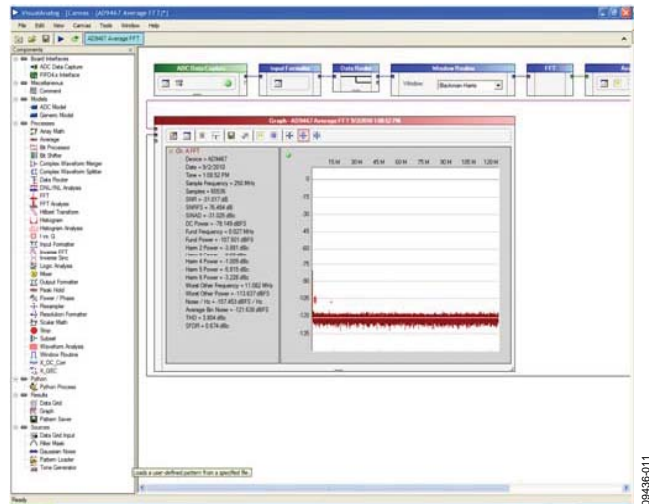
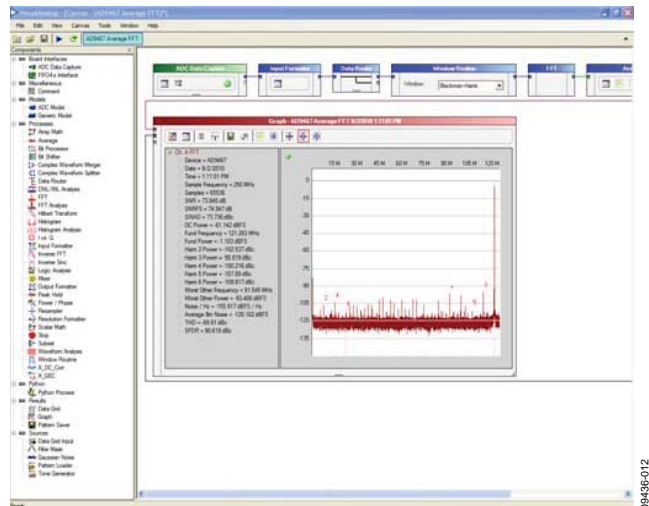

Figure 11. VisualAnalog, FFT Graph, No Signal or Very Low Signal Applied
Figure 12. VisualAnalog, FFT Graph, Full-Scale Signal Applied
1. Apply the input signal so that the fundamental is at the desired level (examine the **Fund Power** reading in the left panel of the **VisualAnalog FFT** window). See Figure 11 and Figure 12.